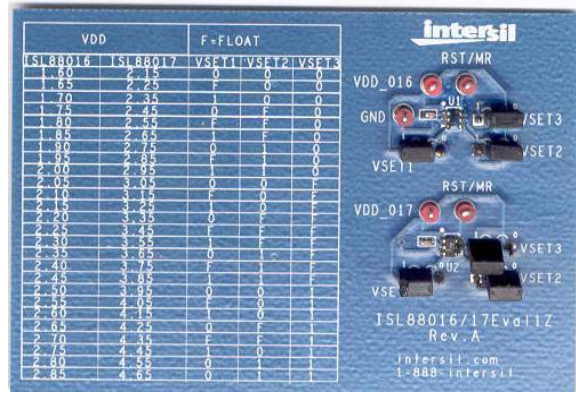
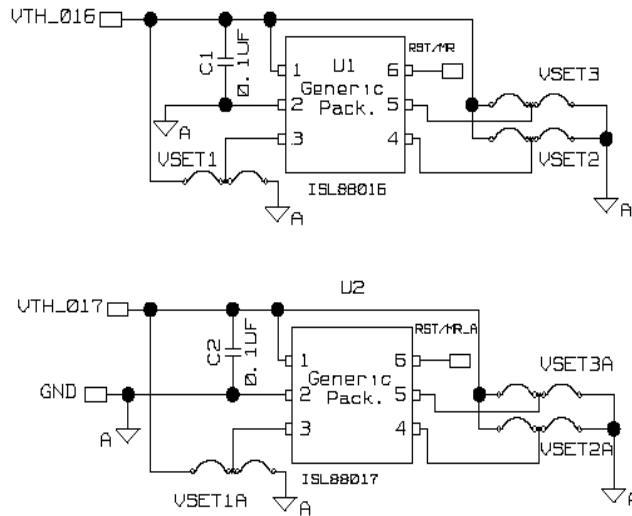

FIGURE 5. ISL88016/17EVAL1Z PHOTOGRAPH
FIGURE 4. ISL88016/17EVAL1Z SCHEMATIC
The ISL88016/17EVAL1Z platform is provided with both an ISL88016 in the top and an ISL88017 in the bottom positions. Each IC is default programmed to VSET1, VSET2 and VSET3 = FLOAT but provided with jumpers to change the V_{th} level by individually connecting the three VSET pins to either V_{DD} (1) or GND (0). To the left of the circuits is a VSET programming table for easy reference. Provide adequate bias to V_{DD} to deassert RESET signal. See Figure 4 for the ISL88016/17EVAL1Z schematic and Figure 5 for its photograph.